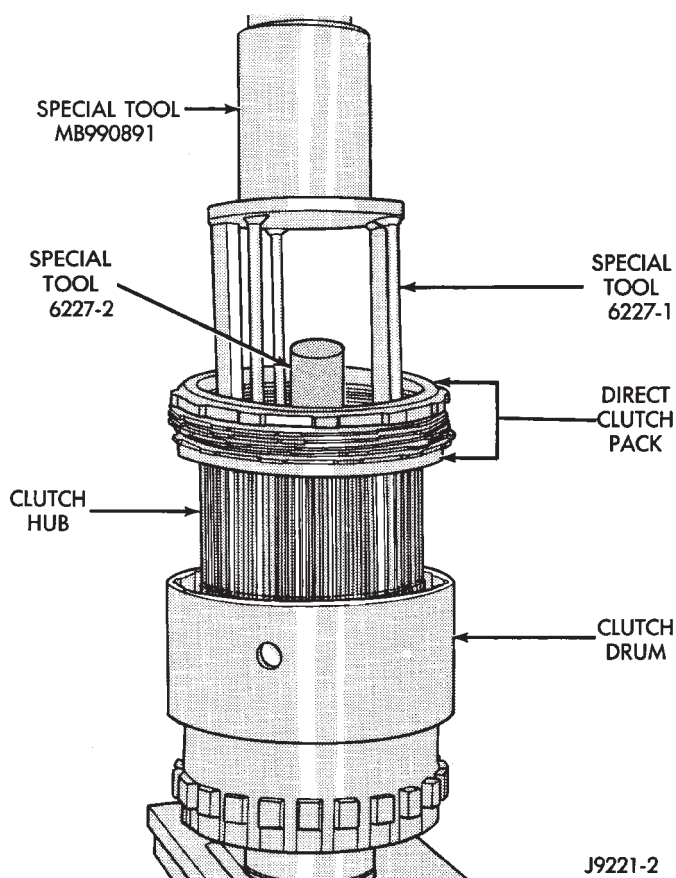

Fig. 342 Mounting Geartrain Assembly In Shop Press
(23) Mount geartrain assembly in shop press (Fig. 342).
(24) Position Compressor Tool 6227-2 on clutch hub (Fig. 342).
(25) Slide direct clutch pack upwards on hub (Fig. 342). Slide pack upward and set it partially on edge of hub and compressor tool as shown in (Fig. 342).